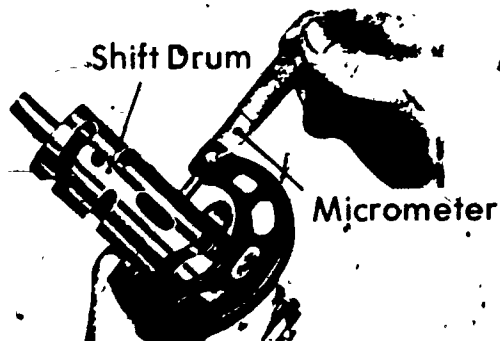

FIGURE 4
H. Inspect and measure shift drum for wear and damage (Figure 4)